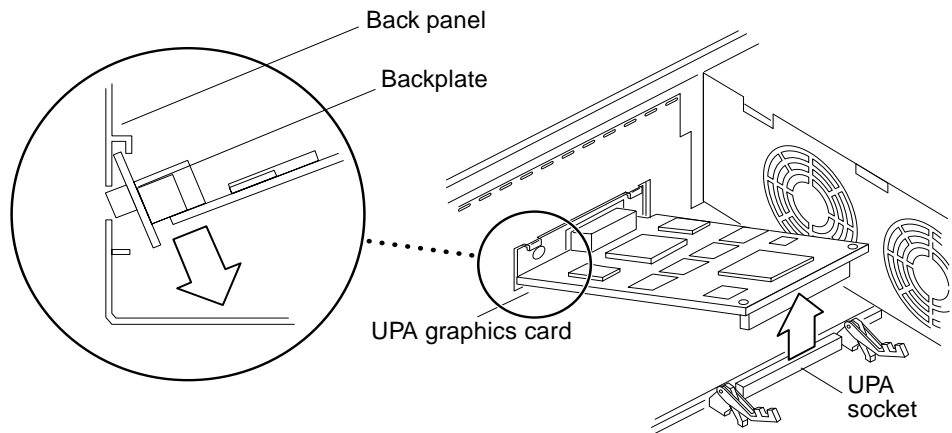

FIGURE 10-10 Removing a UPA Graphics Card
6. Holding the UPA graphics card at each corner, gently pull the UPA graphics card up to disconnect it from the UPA socket (FIGURE 10-10).